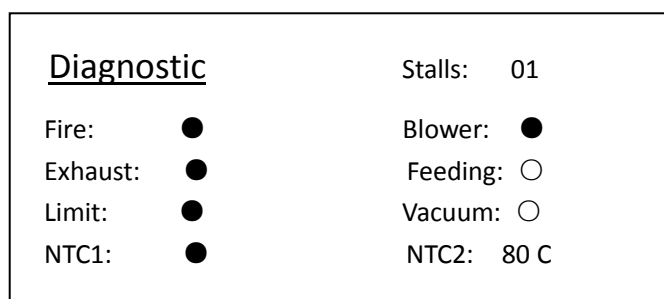

Figure 29
2. Using the SCROLL DOWN key, move to option 6 "Diagnostics". Press ENTER. This will take you to the "Diagnostics" screen. **SEE FIGURE 29**